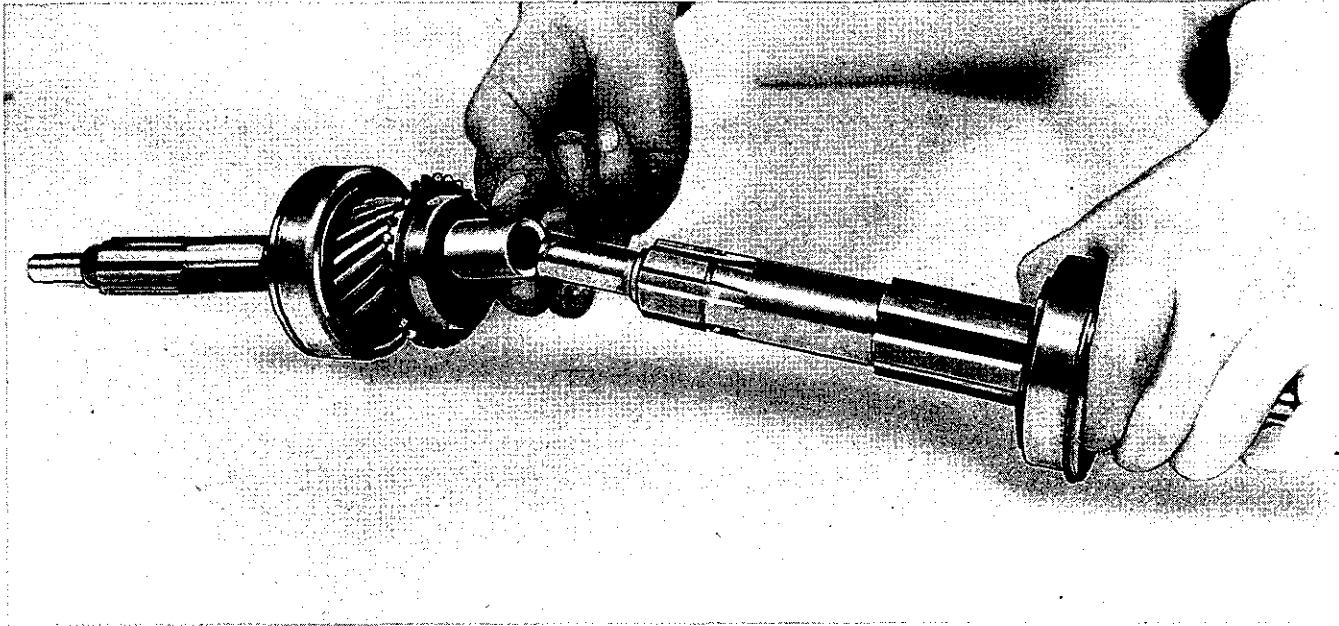

Fig. 27. Position for assembling "oilite" bush into constant pinion and on mainshaft spigot
13. Fit Oilite spigot bush into constant pinion, placing the internally bevelled portion of this towards the mainshaft as shown in Fig. 27.